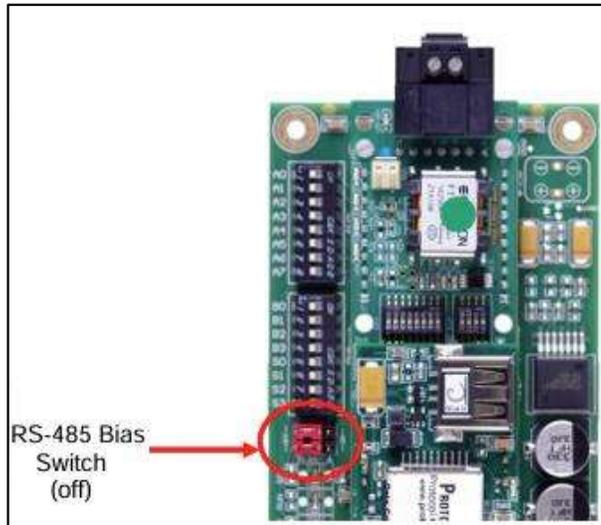

Figure 3-2: Modbus RS-485 Biasing Switch on the ProtoNode
- The OFF position is when the 2 RED biasing jumpers straddle the 4 pins closest to the outside of the board of the ProtoNode. See Figure 3-2.